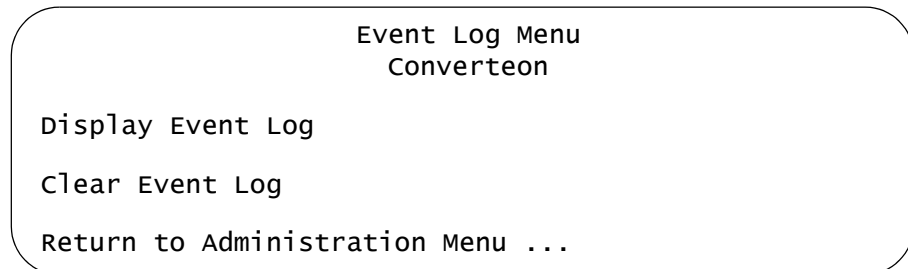

Figure 29. Event Log Menu
2. From the Administration Menu, select **Event Log** to display the Event Log Menu window shown in Figure 29.